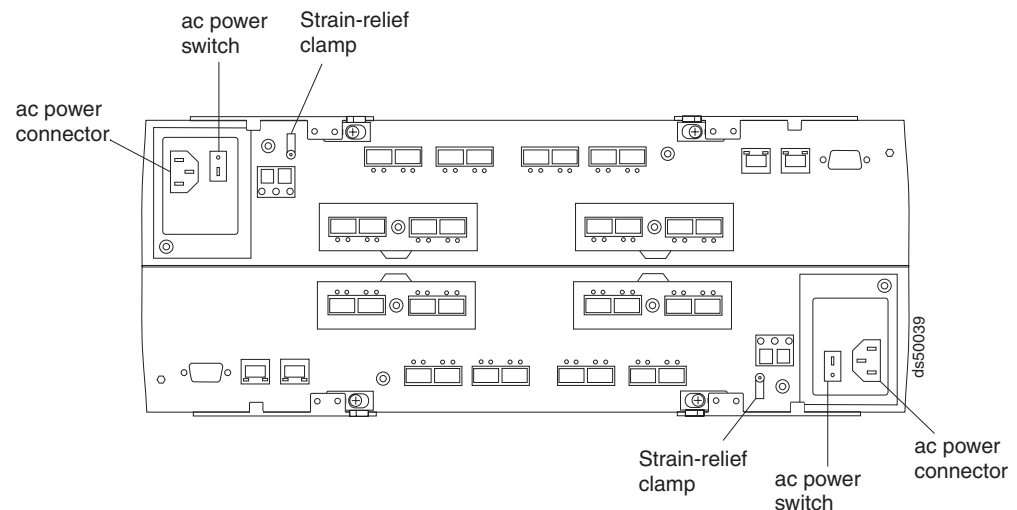

Figure 88. AC power switch and ac power connector
2. If you have not already done so, turn off all power switches on each storage subsystem and storage expansion enclosure in the cabinet. Figure 88 shows the locations of the power switches and connectors on the storage subsystem.